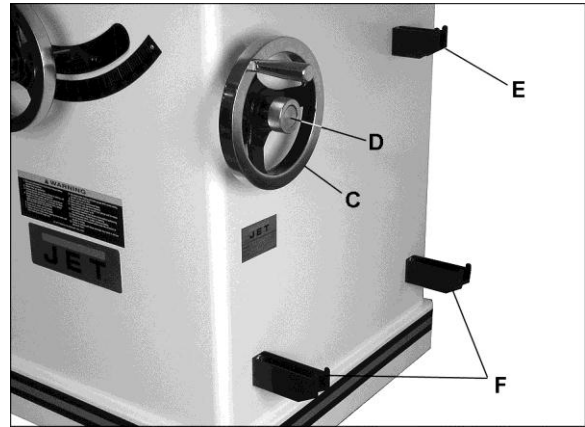

Figure 7
2. Line up key on shaft with keyway in hand-wheel and slide hand-wheel (C, Figure 7) onto shaft.
4. Insert lock knob (D, Figure 7) into center hole in shaft and rotate in clockwise direction.
Install small hook (E, Figure 7) in upper hole for miter gauge storage. The larger hooks (F, Figure 7) are installed in the lower holes for fence storage.